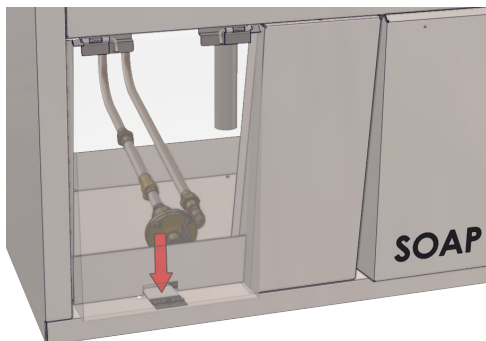

Fig. 24: Push down knee panel door latch
1. Open the knee panel door by depressing the latch at the bottom of the panel door (Fig. 24).